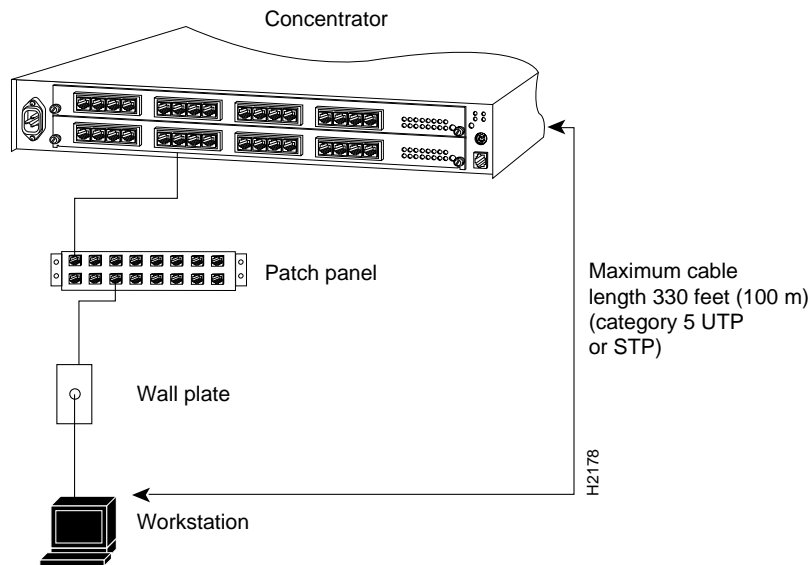

Figure 2-3 Category 5 STP and UTP Distance Requirement
- Data-grade UTP—EIA-568, category 5, data-grade cable is required for CDDI installations. The total length of data-grade UTP cable from the concentrator to another concentrator, station, or CDDI switch must not exceed 330 feet (100 m), including patch and cross-connect cables. (See Figure 2-3.)
- STP wiring—You must use IBM Type 1 STP wiring for your CDDI installation. The total length of STP cable measured from the adapter or media access unit (MAU) to the concentrator must not exceed 330 feet (100 m). (See Figure 2-3.)